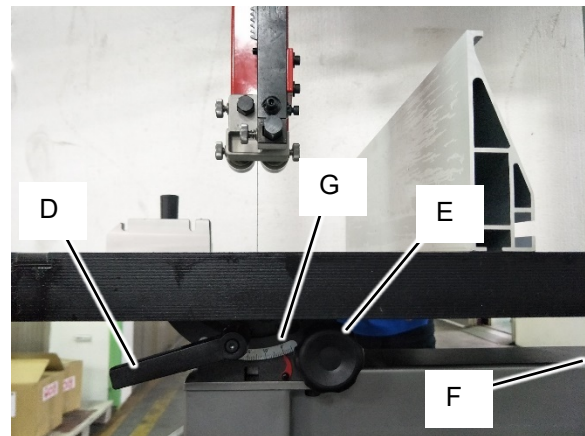
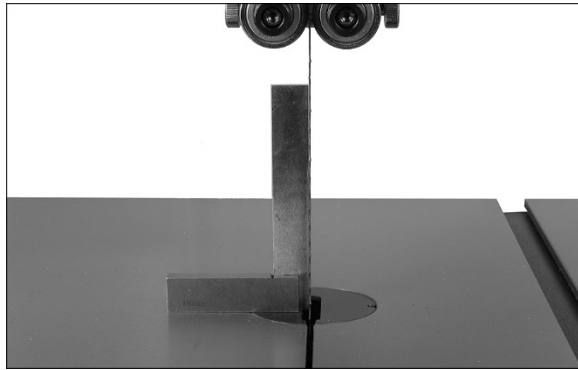

Figure 7-4
Figure 7-5
Refer to Figure 7-4.
Note: Table stop bolt (F, Figure 7-4) must be pivoted out of the way to tilt table to the left.
1. Loosen lock handle (D, Figure 7-4) and use knob (E) to tilt table until it rests against table stop bolt (F, not visible). Retighten lock handle.
2. Use a square (Figure 7-5) placed on table and against blade to verify that table is 90 degrees to blade.
3. If an adjustment is necessary, loosen lock handle (D). Tilt table until it is square to blade; then retighten lock handle.
5. If necessary, adjust pointer (G, Figure 7-4) to zero.